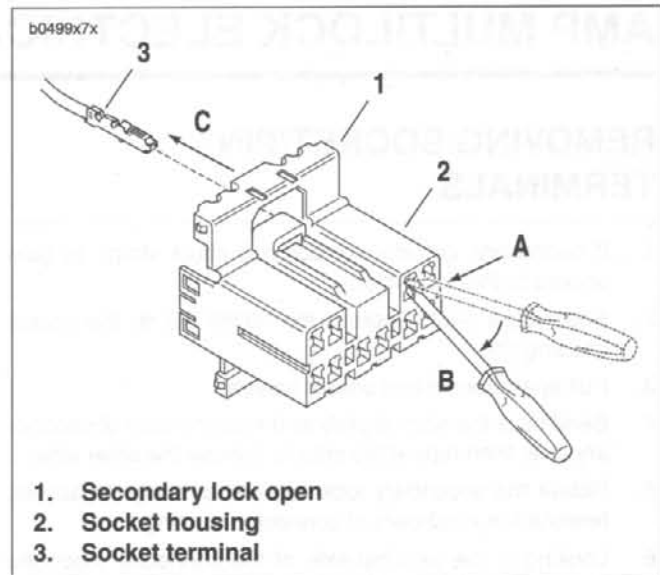
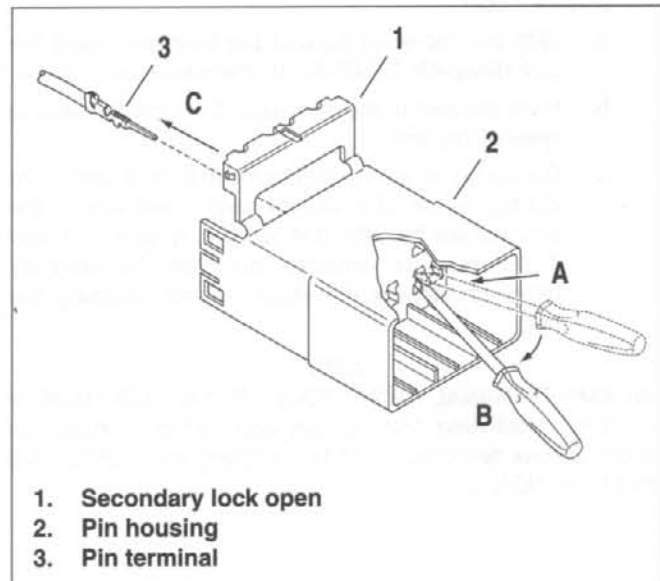

Figure 7-84. Socket Terminals
Figure 7-85. Pin Terminals
7. Remove socket terminal (Figure 7-84.) or pin terminal (Figure 7-85.)
- a. If installing socket terminals, see Figure 7-84.
- b. If installing pin terminals, see Figure 7-85.